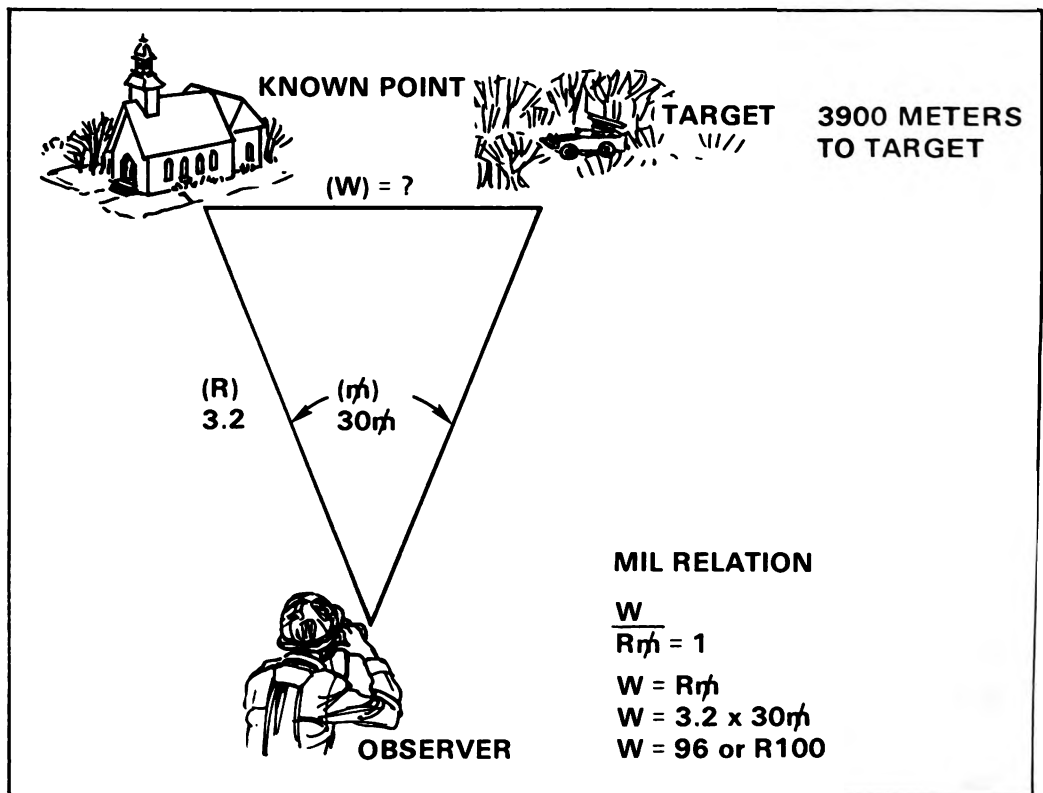

Figure 5.
2. Determine the lateral shift from a known point to the target (see figure 5) using the mil relation formula.
a. The formula is expressed as $\frac{W}{R\eta} = 1$, where η is the angular measurement in mils between the two points, R is the distance in thousands of meters (expressed to the nearest 100) to the known points from which angle η was measured (figure 5), and W is the lateral distance in meters.
b. A convenient way of using the mil relation formula is to cover the value desired and perform the calculation indicated. For example, to find the lateral shift in meters, the lateral distance (W) would be covered leaving the range (R) to be multiplied by the mils (η).
(1) For our purposes, the mil relation formula is used in conjunction with the distance to the known point expressed in thousands to the nearest 100 to determine lateral shift. The lateral shift in meters (W) is equal to the distance to the known point (R) times the angular deviation in mils (m).
(2) The distance to the known point is the distance from the observer to the known point (to the nearest 100 meters) divided by 1000. For example, if the distance to the known point (church in figure 5) is estimated to be 3,200 meters, the distance to the known point is 3.2.
3. Determine range change from the known point to the target (see figure 5).